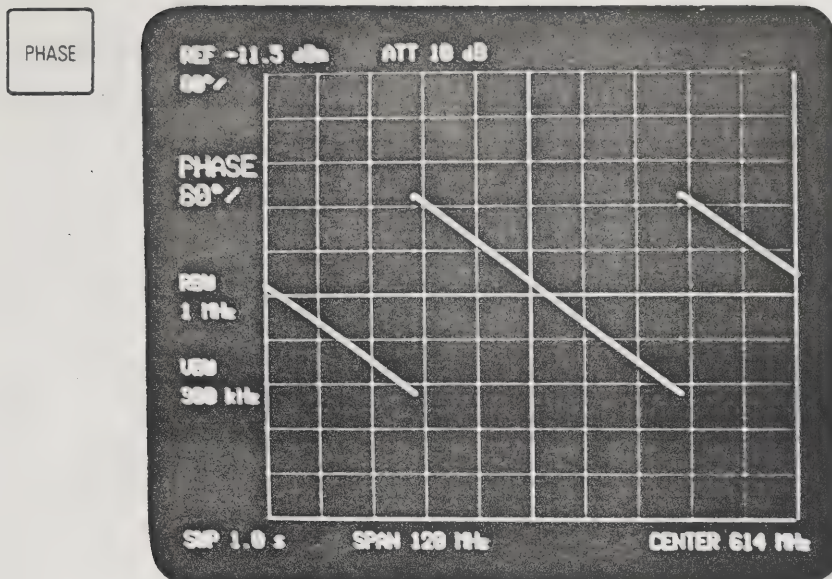

Fig. 6-1 Phase in rotation
- (1) Set center frequency, frequency span, resolution bandwidth, sweep time, and other necessary conditions.
- (2) Connect the TRACKING GENERATOR OUTPUT to the input of the device under test (amplifier or filter), and connect the output of the device under test to the INPUT of the analyzer. Activate the tracking generator.
- (3) Press the NORMAL key to measure the pass-band response of the device under test. According to the measurement result, select the appropriate T.G. LEVEL and INPUT ATT. level.
- (4) Then press the PHASE key to select the phase measurement mode. The display will present measurement range $XX^0/$ at its top left corner, and the indicator lamp just above the PHASE key will illuminate. In the Phase Measurement mode press the SWEEP TIME key to manually select the appropriate sweep time (the AUTO mode is programmed for amplitude measurement).
- (5) For more precise phase measurement without the affect of phase error of the measuring system, disconnect the device under test from the measuring setup, then connect the input and output cables by using an inline plug adapter to check the phase response of the measuring system itself.
- (6) If phase rotation is observed as shown in Figure 6-1, press the kHz G.D. OFFSET key to activate the electrical length.